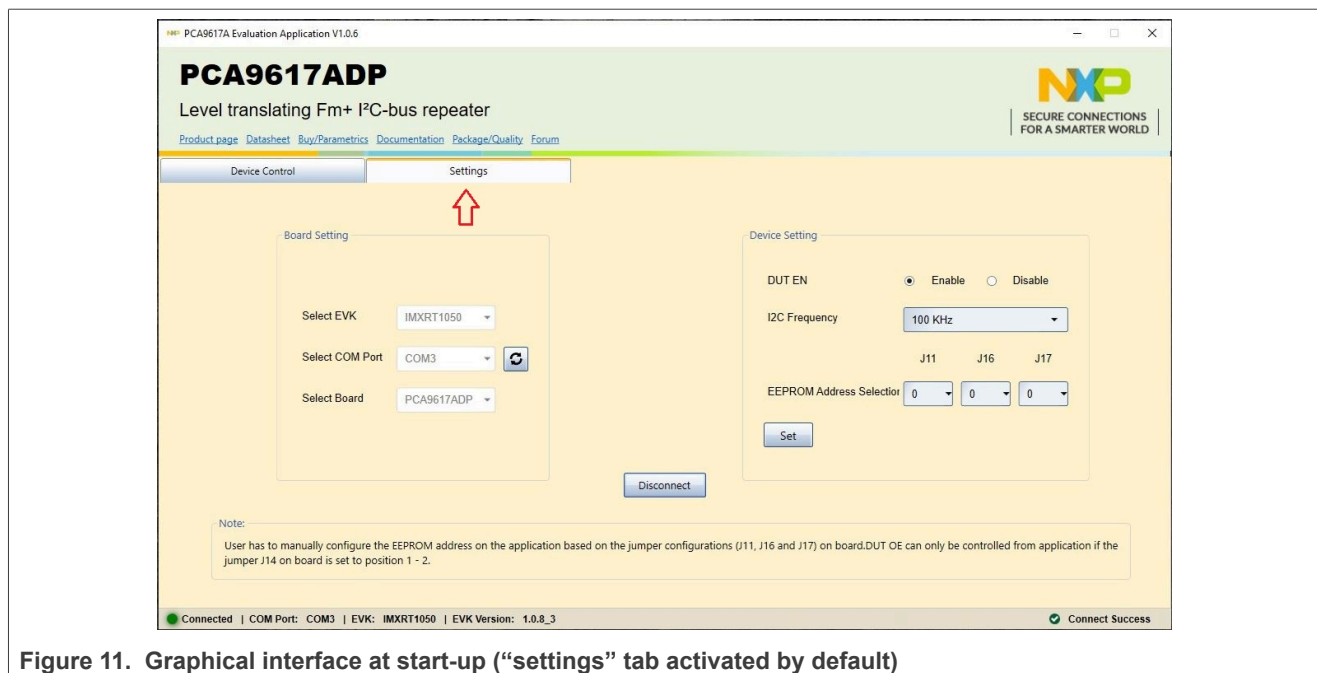

Figure 11. Graphical interface at start-up ("settings" tab activated by default)
Once installation is complete, assure that one of the mentioned three EVKs with attached PCA9617A-ARD daughterboard is connected to a PC and powered-on. Open "NXP\_GUI(PCA9617A,PCA9846)" GUI application. An interface appears as shown in Figure 11:
- **Select COM port:** displays port selected for the communication. The port is automatically selected by the system (COM 3 is selected in Figure 11).
- **Select Board:** allows the user to select the correct daughterboard (the application can support two different boards). In Figure 11, the selected board is PCA9617A. Selecting the wrong daughterboard causes the connection to fail and a pop-up window with the message: *"Unable to Connect with Daughter Card"* appears on the screen.